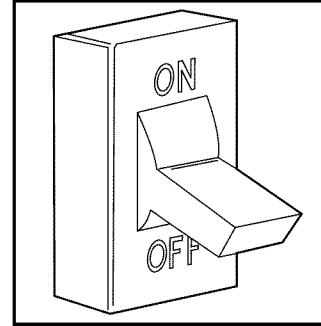
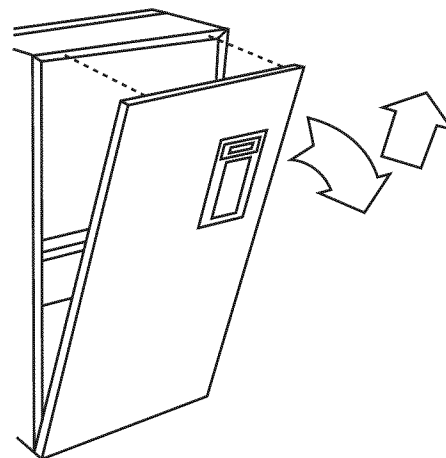

Fig. 20 - Turn Off Electrical Supply
Fig. 21 - Main Furnace Door
1. Turn off electrical supply to the furnace. See Fig. 20.
• AIR FILTER(S) LOCATED IN BLOWER COMPARTMENT:
- a. Remove main furnace door. See Fig. 21.
1. Turn off electrical supply to the furnace and remove the main furnace door. See Fig. 20 and 21.